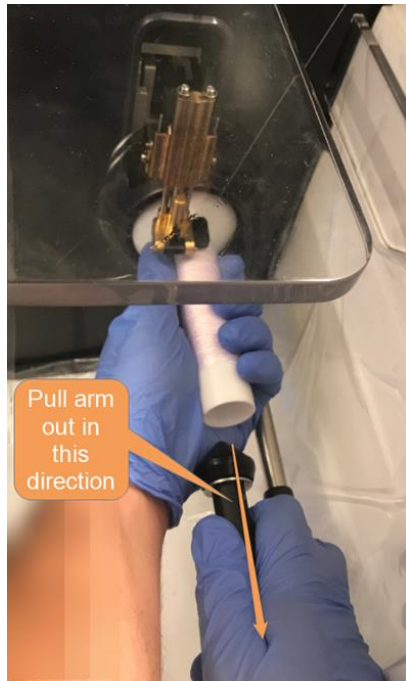

Figure 45 Releasing the cone
2. To release the collecting cone, hold the cone with your left hand and, using your right hand, firmly pull the spring-loaded cone support arm in the direction shown in Figure 45.